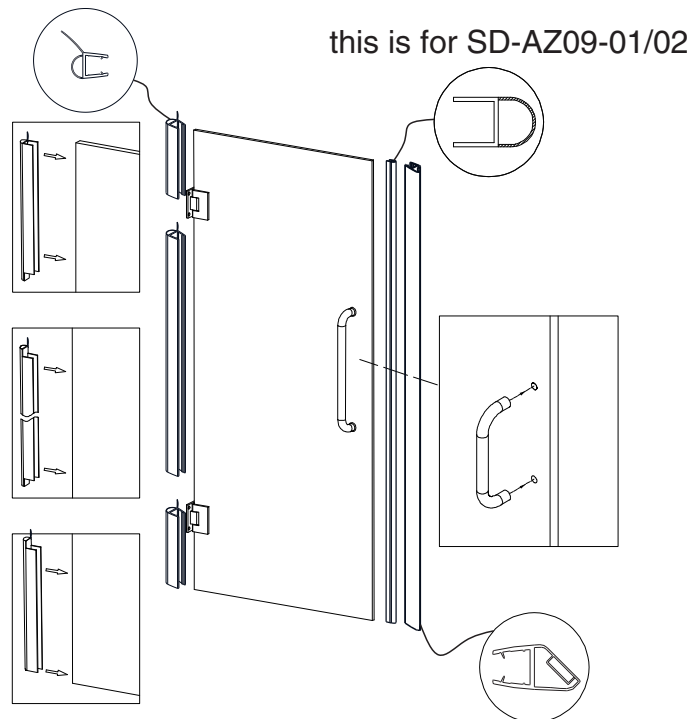

Fig. 3
ATTENTION: When the door is shut, the Handle side of the Glass Door should be tight to the Water proof Strip (06) along the vertical edge. Refer to Figure 3 for details.